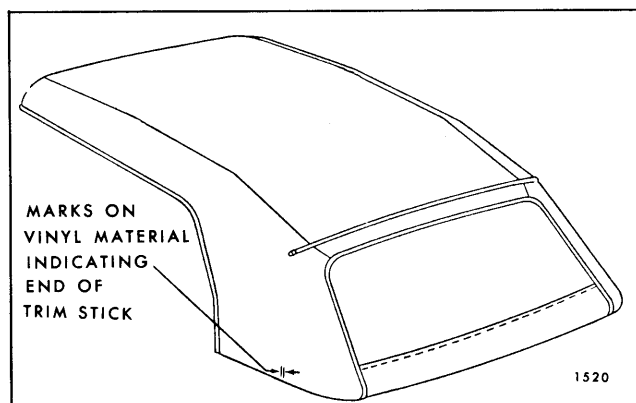

Fig. 13-44—Marking Top Material
7. Using a pencil, mark both ends of rear and rear quarter trim sticks on vinyl surface of top material (Fig. 13-44).